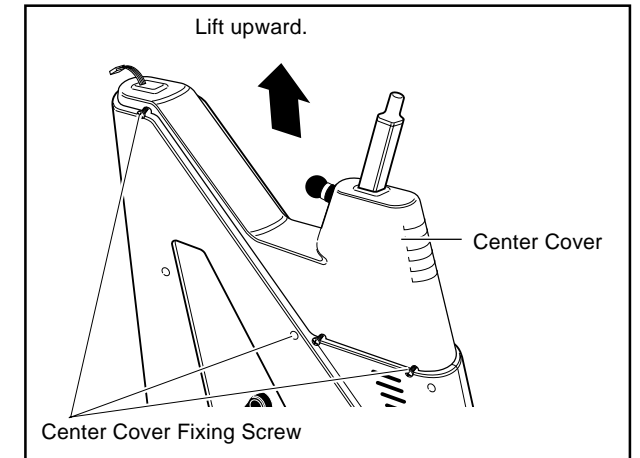

Fig. 4
4. Set the center cover to the frame cover correctly in position, and fix it with the center cover fixing screws. (Fig. 4)